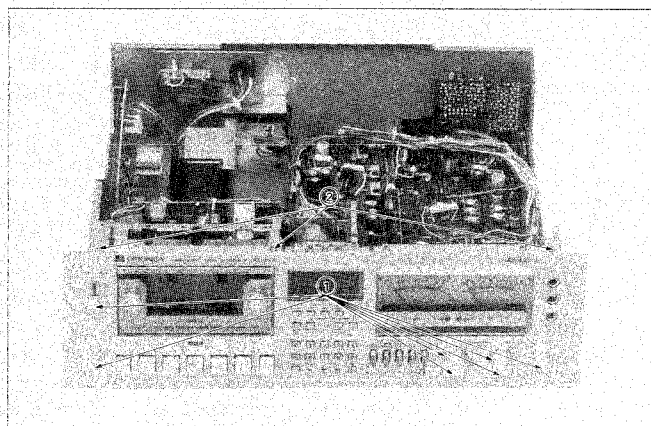

Figure 7
REMOVAL OF THE FRONT PANEL, VU METER AND CONTROL UNIT (See Figure 7 to 14)
- ① Pull out the seven knobs in total — the power switch knob (x1), editor switch knob (x1), line record level control knobs (x2), microphone record level control knobs (x2) and output level control knob (x1).
- ② Remove the five screws retaining the front panel and it is then possible to detach the control unit and VU meter unit together with the front panel (See Figure 7 and 8).
- ③ Remove the two screws retaining the VU meter illumination unit and it is then possible to detach the meter illumination unit from the front panel.